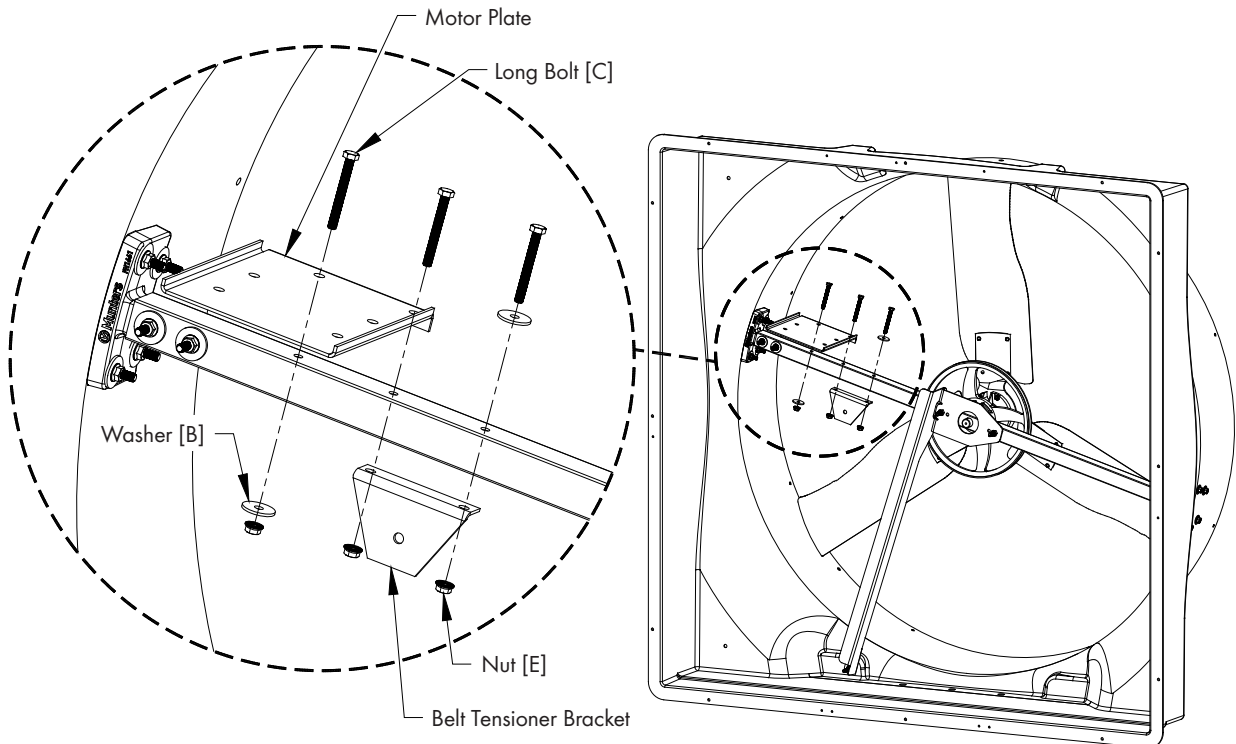

Figure 4
Attach the Motor Plate and the Belt Tensioner Bracket to the Tube Strut using (3) Long Bolts [C], (2) Washers [B] and (3) Nuts [E]. See Figure 4.